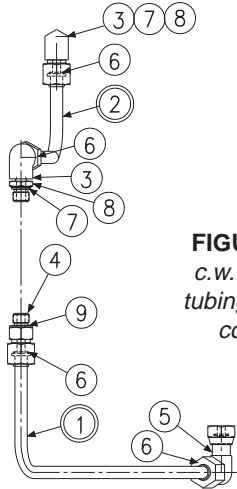

FIGURE 19
PARTS LIST FOR FIGURE 19
7. Install proportional valve with LVDT, (9). Torque screws (22) to 66 in.-lb, 7,5 Nm.
8. For 260 series, install adapter, (27).
9. Install tubing assembly (Figure 19, 20).